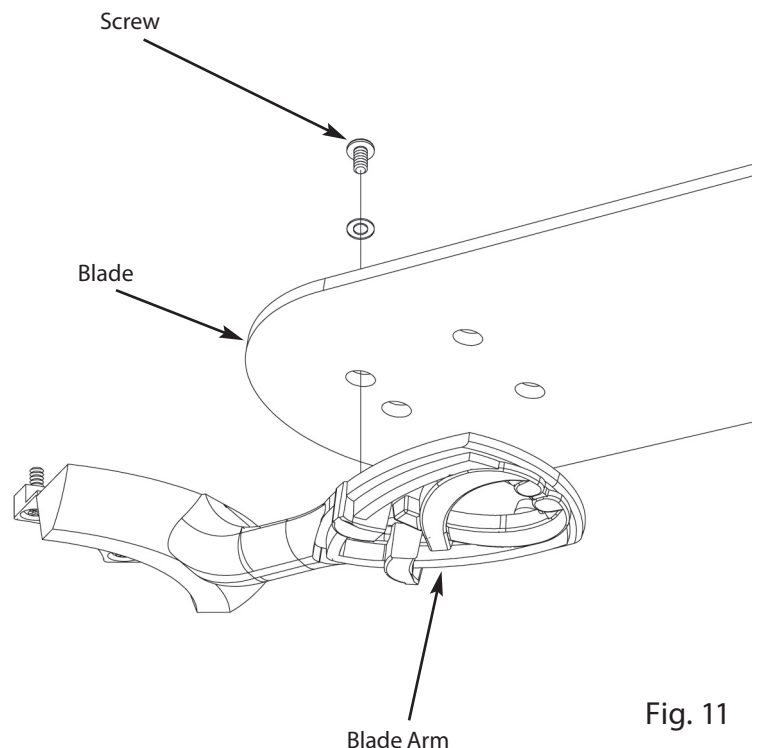

Fig. 11
Attach each fan blade to a blade arm with four (4) 3/16" x 1/2" washer head screws and four (4) 3/16" screw pads (see figure 11). **DO NOT OVER TIGHTEN THESE SCREWS.**